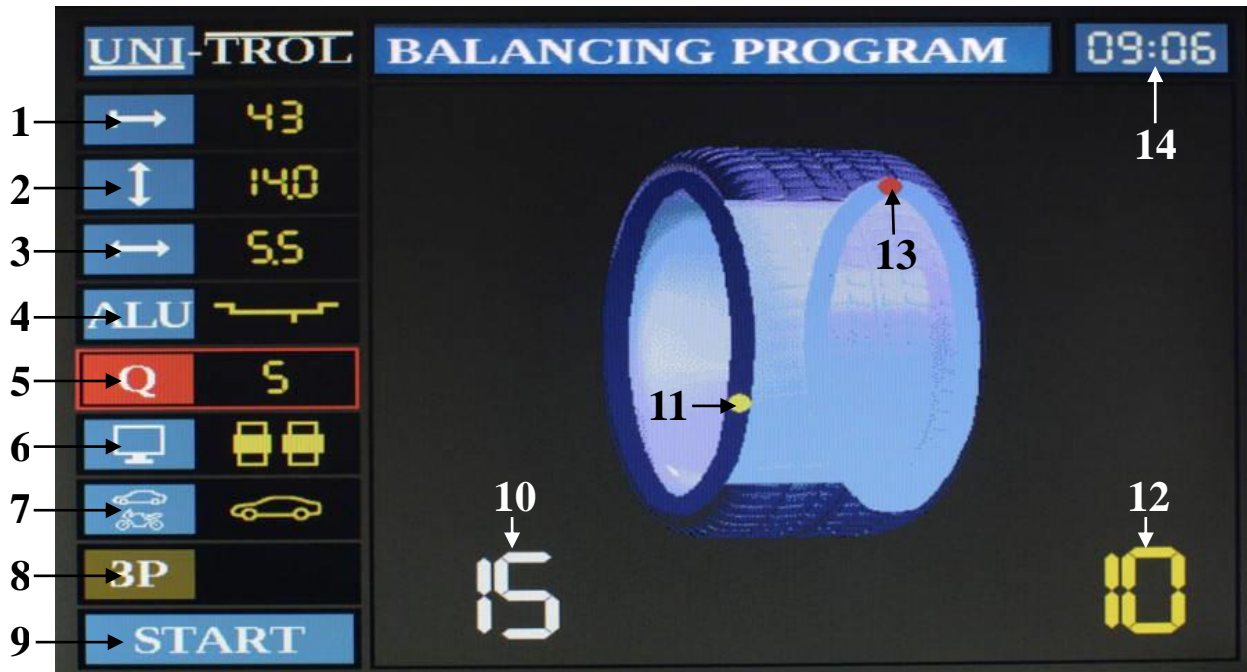
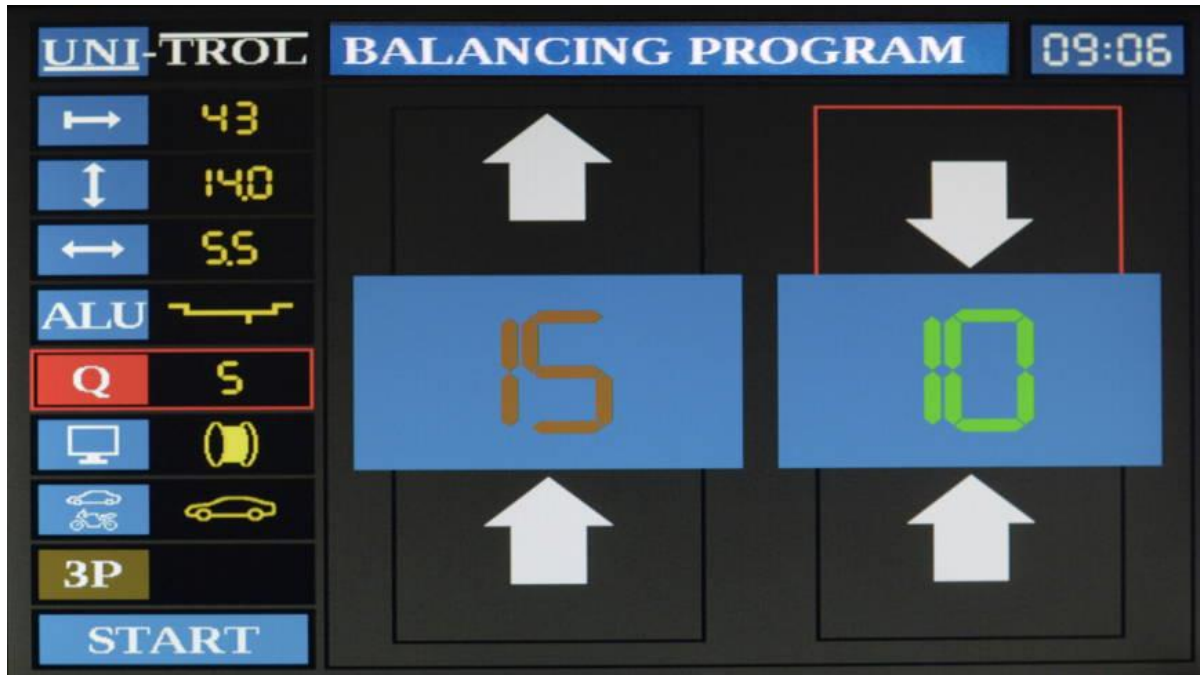
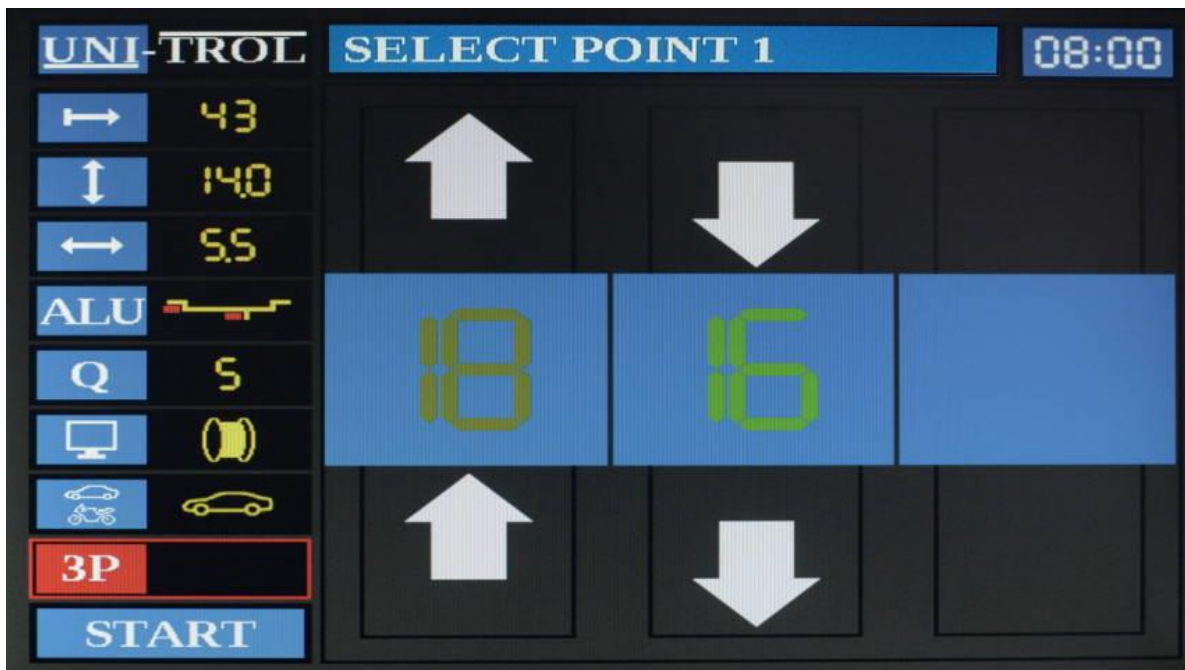

Fig. 6.3 – Balancing program screen.
Fig. 6.4 – Balancing program screen – simplified mode.
Fig. 6.5 – Screen of “hidden weight” function – selecting the first point.
The balancing program's screen has been presented in fig. 6.3. The left section contains a menu for setting wheel parameters or alternating measurement properties. Table 6.1 describes all elements of the menu as well as other sections of the screen.
To input wheel's distance to the machine, its diameter and width, use the arrow keys or one of shortcut keys (positions 1-3 in fig. 6.3) to set the cursor position on the chosen element. Next, using the *Plus* and *Minus* keys, set the desired value. After each button press the value will either increase or decrease, which will be signalled with a sound from the speaker. If the button is held for a longer time, the parameter value will change quicker.
In order to select the weight placement mode, use the arrow keys or the ALU shortcut key (4 in fig. 6.3) to set the cursor position. Use the *Plus* and *Minus* keys to set the weight placement mode. After each button push the setting will change, which will be signalled with a sound from the speaker. If the key is held longer, the setting will change more rapidly. Table 6.2 presents all possible weight placement modes for car wheels (numbers 1-5) and two motorcycle wheel modes (numbers 6 and 7).
Threshold level is used for hiding small values of imbalance. Setting a higher threshold increases the machine's tolerance. In order to set threshold level move the cursor to the threshold setting or press the shortcut key (5 in fig. 6.3). Next, using the *Plus* or *Minus* keys, set the desired value. After each key press the value changes, which is also signalled with a sound. If *Plus* or *Minus* is held longer the threshold changes quicker. Available values are 2g, 5g and 10g. When one of there are set, all imbalance values below the threshold are set to 0g.
In order to change the screen mode, move the cursor using up and down arrow keys to position 6 from fig. 6.3. Next, using *Plus* or *Minus* keys, change this option to one of 2 possibilities. Figure 6.3 presents an option with a wheel on the screen and figure 6.4 shows the simplified display mode.
Wheel displaying mode shows imbalance positions using a yellow dot moving around the rim's edge. If the wheel is close to one of the positions of imbalance, the imbalance result changes its colour from white to yellow. If the wheel is exactly at the imbalance position, the dot changes its colour from yellow to red (external plane in fig. 6.3).
In the simplified displaying mode the imbalance position is shown using arrows on the screen as well as the colour intensity of the imbalance value. If both arrows are directed upwards, it means that the wheel has to be revolved forward. If the arrows are both directed downwards, the wheel needs to be reversed. Depending on the colour (and its intensity) of the imbalance value, the greener the colour the closer the wheel is to the imbalance position. The colour becoming more red indicates receding from the imbalance point. If the arrow above imbalance value points downwards and the arrow below imbalance value points upwards (as in fig. 6.4 for external plane), the imbalance position is at the top of the wheel (if the frame on the top changed its colour to red) or at the bottom (if the frame at the bottom changed its colour to red). If both arrows point outwards in opposite directions, the imbalance position is exactly on the other side of the wheel and it has to be rotated 180°.
Depending on the wheel type the operator wishes to balance, the measurement mode should be set. In order to do so, move the cursor using arrow keys to position 7 from fig. 6.3. Next, using *Plus* or *Minus* button, change the measurement mode to one of 2 following values: car wheels or
To activate the “hidden weight” program, move the cursor to icon 8 from fig. 6.3 and press *Enter* or directly run the function by pressing the “hidden weight” shortcut button (17 in fig. 2.2). A simplified display mode is shown, but split into three sections and “SELECT POINT 1” caption appears at the top of the screen, as presented in fig. 6.5.
ATTENTION: As long as icon 8 from fig. 6.3 is brown, the “hidden weight” program is inactive. This program activates automatically only for weight placement modes 4, 5 and 7 and imbalance values above 5g.
The left part with imbalance value corresponds to internal plane of correction and the central part to external correction plane. To choose the first point where the first weight is to be placed, find the current imbalance position by revolving the wheel in the direction pointed by the arrows (downwards in fig. 6.3). If the imbalance position is on the top, the machine signals it with a sound,
- ⤴ Moving the cursor to position 9 from fig. 6.3 and approving by pressing *Enter*.